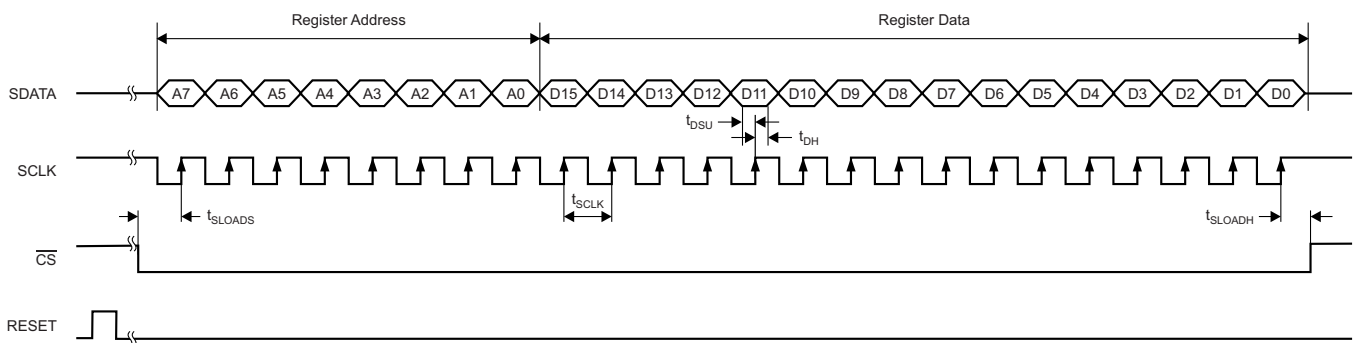

Figure 43. Serial Interface Timing Diagram
1. Either through a hardware reset by applying a high pulse on the RESET pin (of widths greater than 10 ns), as shown in Figure 43; or
Table 5. Timing Characteristics for Figure 43⁽¹⁾